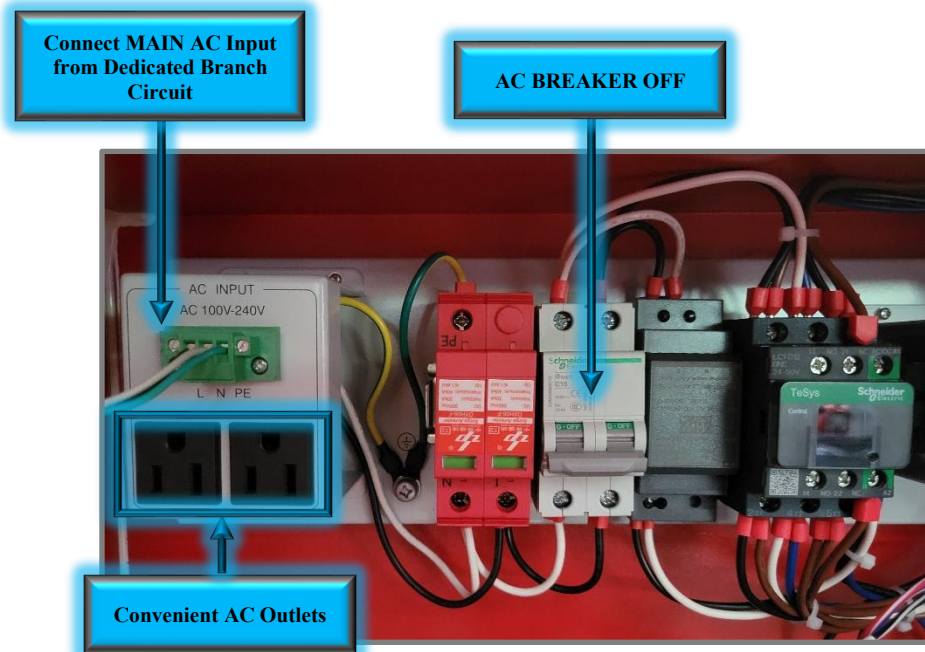

Figure 49: V3 BBU AC Input, AC Breaker OFF, and AC Convenience Outlets
- Connect the AC input into the BBU, as shown below in Figure 49.
**CAUTION.** There are two convenient AC Outlets provided next to the AC Input. See Figure 49. These are to be used for convenience during commissioning for items like laptops, cell phones chargers, RF Test Equipment, etc. The AC Outlets are in parallel with the MAIN AC Input and are not backed up by battery power. Do not permanently connect any components to the outlets for general system use as they will not work per the code requirements when normal AC power is lost. Furthermore, code requirements mandate the Signal Booster System Components are fed from a dedicated circuit. The AC Outlets should be empty during normal operation after system commissioning.